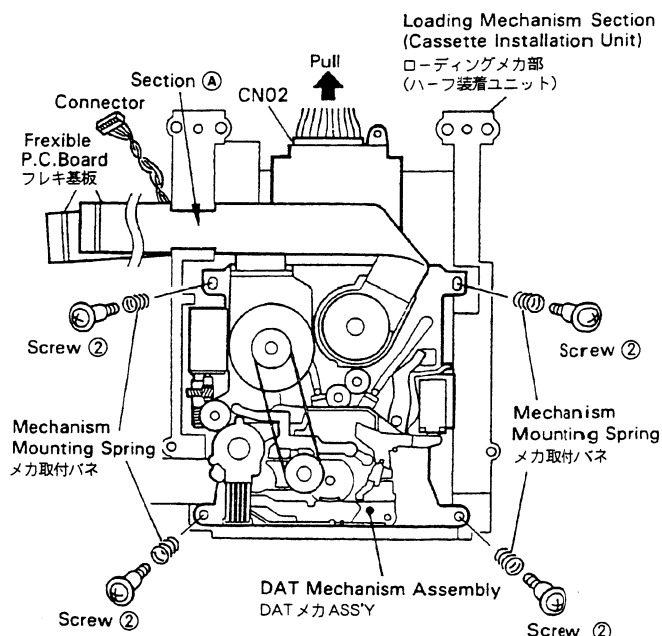

Fig. 2-2
4. Remove the two flexible P.C.Board and the connector wires from the slot of section (A). (Refer to Fig. 2-2)
5. Remove the four screws ② and the four mechanism mounting springs, and remove the DAT mechanism assembly from the cassette installation unit. (Refer to Fig. 2-2)
4. フレキシ基板2本とコネクタの線材1本を(A)部の溝から外す。(図2-2参照)
5. ネジ②4本とメカ取付けバネ4本を外して、ハーフ装着ユニットからDATメカASSYを外す。(図2-2参照)